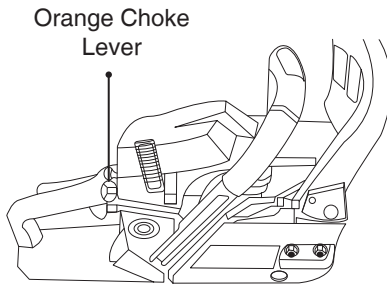

Fig. 7
- 1- Pull the choke lever out to the full extent (Fig. 7)